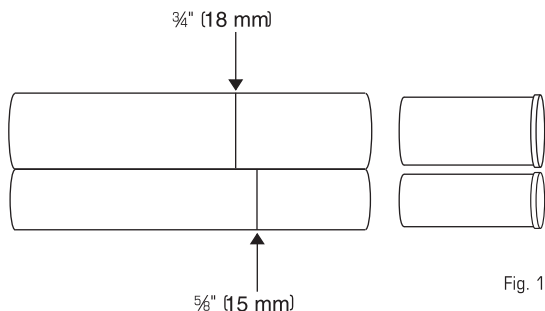

Fig. 12
4. **Lay** each tube from the Diverter on the diagram. Use a pen to **mark** a line across them at the arrows. **Push** tubing supports into their respective tubes, until they are flush with the end of the tubes (Fig. 12).